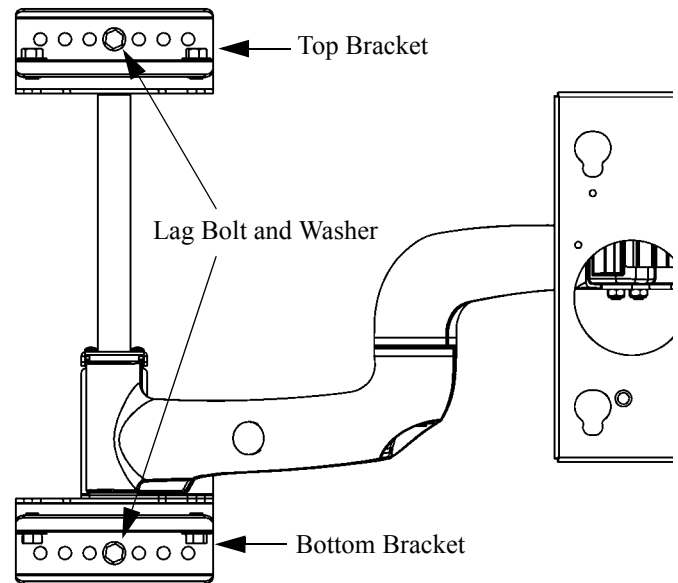

Figure 3. Install the Mount
2. In the mounting hole of your choice, install a lag bolt and flat washer in the top bracket using the pilot hole previously drilled. See Figure 3 for an example.